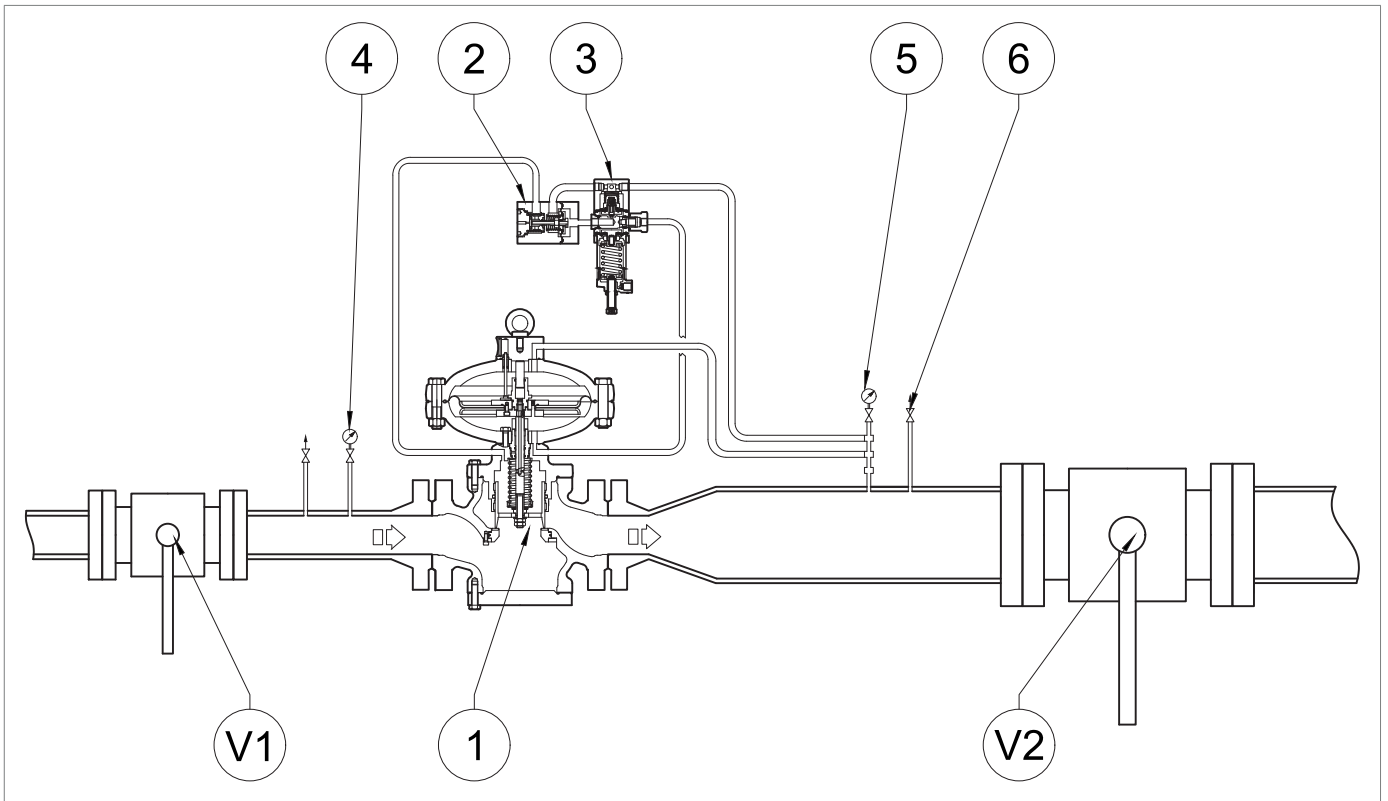

Fig. 8.29. Commissioning the regulator
1	<p>Increase the downstream pressure to the slam-shut valve by turning the adjustment screw (10) on the pilot (2) of the main regulator (1) to check the correct calibration.</p> <p>! NOTICE!</p> <p>Check the pressure referring to the pressure gauge (Fig. 8.29, ref. 5) downstream of the main regulator.</p> <p>If the slam-shut valve:</p> <ul style="list-style-type: none"> <li>trips before the expected pressure value: screw in (clockwise) the adjustment ring nut (13) so as to further compress the spring (11);</li> <li>does not trip at the expected pressure value: unscrew (anti-clockwise) the adjustment ring nut (13) so as to relieve the spring (11).</li> </ul>
2	By opening the drain cock (Fig. 8.29, ref. 6), decrease the pressure in the downstream section to the calibration value of the main regulator.
3	Close the bleed cock (Fig. 8.29, ref. 6).